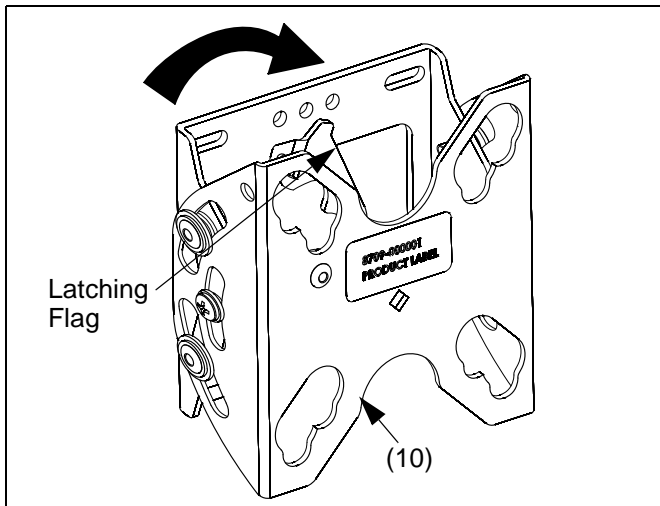

Figure 5: Open Latching Flag
1. Open latching flag by rotating flag clockwise on plate (10) (See Figure 5).
2. Open latching flag by rotating flag clockwise on plate (10) (See Figure 5).